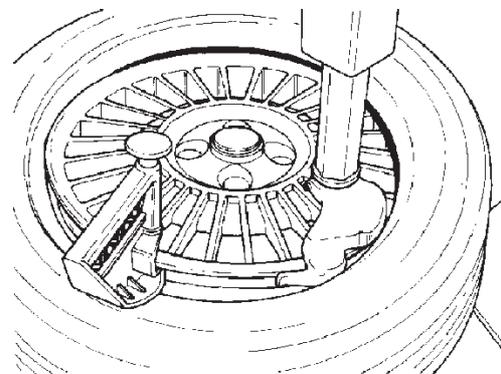

Fig. 4.2-4
C. Mount the upper bead following the same directions in section B. With low profile tires the Bead Holding Clamp (option EAA0247C70A Fig. 4.2-4) or the PBA device (See chapter 5.3), can help to prevent the top bead from prematurely seating during the mounting cycle.